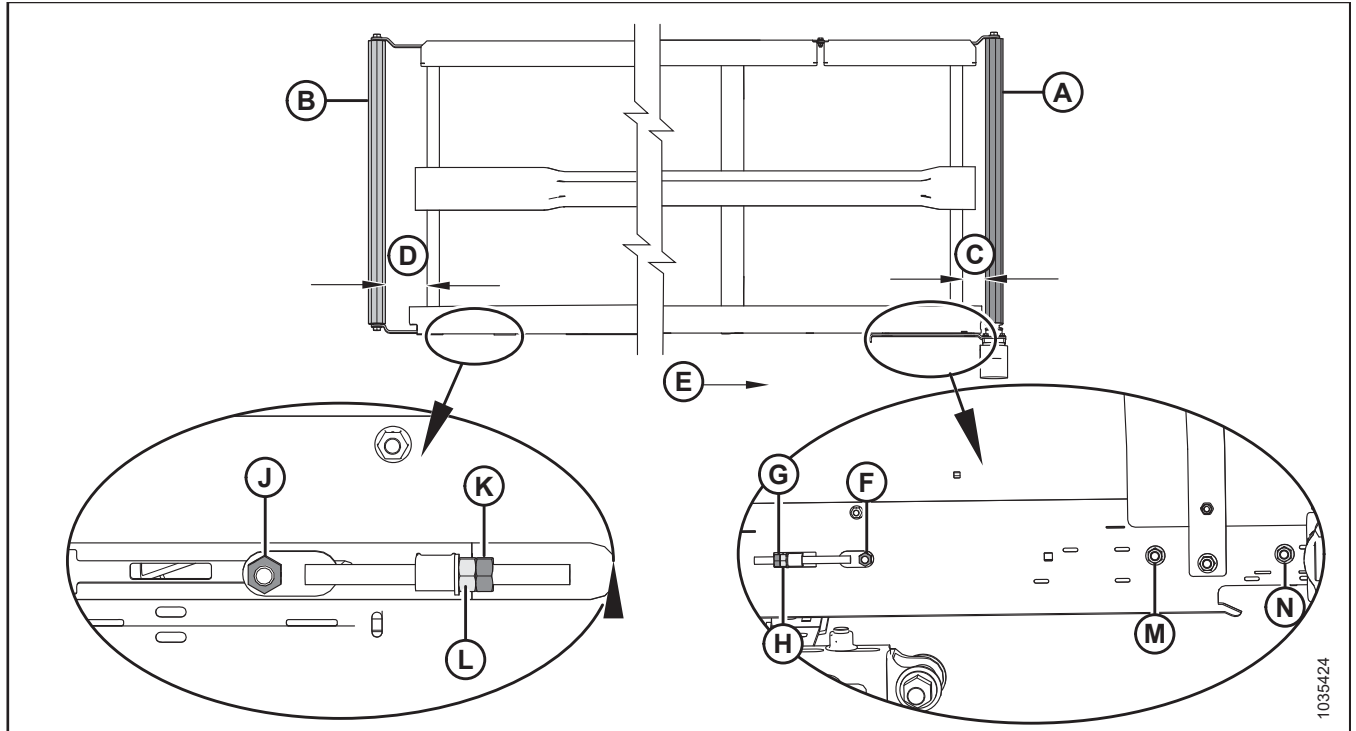

Figure 4.248: Draper Tracking Adjustments – Left Draper
2. Adjust drive roller (A) to change **C** (refer to Table 4.2, page 669 and Figure 4.248, page 669) as follows:
- a. Loosen nuts (F), (M), and (N), and jam nut (G).
- b. Turn adjuster nut (H).
- c. Tighten nuts (F), (M), and (N), and jam nut (G).
3. Adjust idler roller (B) to change **D** (refer to Table 4.2, page 669 and Figure 4.248, page 669) as follows:
- a. Loosen nut (J) and jam nut (K).
- b. Turn adjuster nut (L).